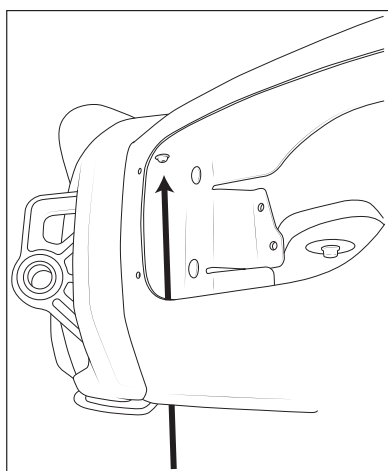

Figure 32
3. Install the M10 x 25 button head bolts and washers to tube hand tight (fig. 32).